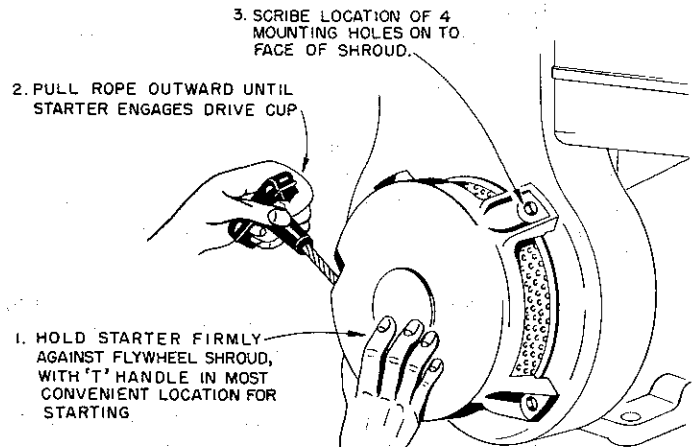

FIG. 3
- With reference to Fig. 3, place starter over drive cup and hold unit firmly against the shroud, with the 'T' starting handle location in the most convenient starting position.